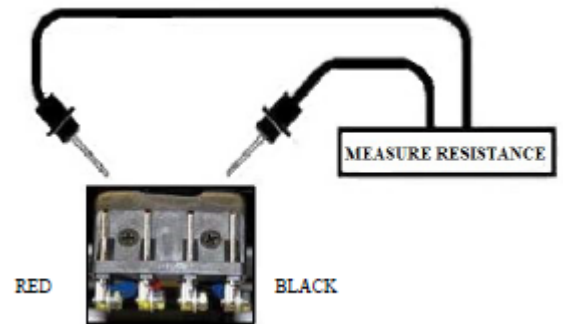

Figure 29. Connector 9
11. Measure resistance across the two outside pins on connector (9) that have the thick black wire and the thick red wire. (Internal resistance of the motor). **See figure 29.**